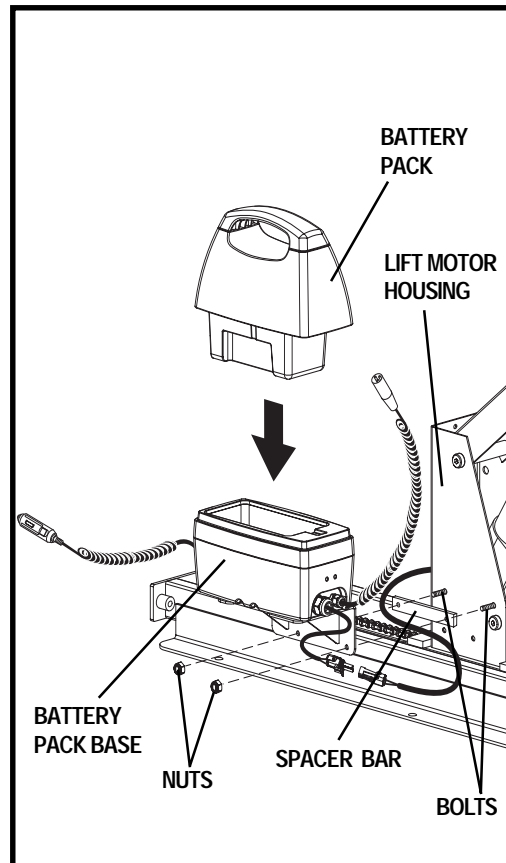

Figure 2. Battery Pack Installation
1. Remove the rubber caps and nuts from the protruding bolts on the side of the lift motor housing. **See figure 2.**
2. Remove the spacer bar. **See figure 2.**
3. Mount the battery pack base onto the protruding bolts and secure into position with the nuts removed earlier. **See figure 2.**